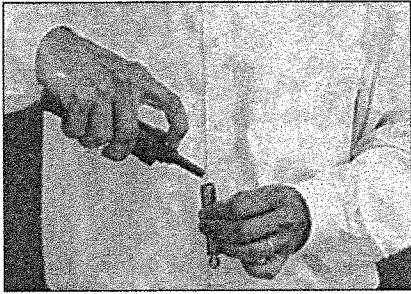

Figure 2
8. Pour powder from flask into a powder measure that is set for correct powder charge (See Figure 2).
9. With the muzzle pointed "up" and no part of your body extended over the gun, pour a measured charge down the barrel. (See suitable charges—Table 1, Page 9)(See Figures 2 and 3).